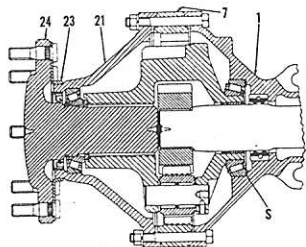

Fig. 241 — Cross sectional view of early three-pin (straddle mount) planetary final drive unit.
In the early three-pinion (Straddle-Mount) planetary unit, axle housing (1—Fig. 241) carrier a part number prefix of "894 or 899", and a pressed steel shield (23) is attached to inner side of wheel axle flange (24).